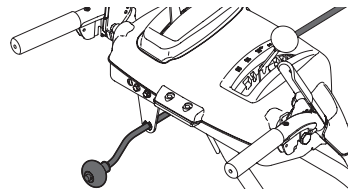

Figure 10
4. Insert chute control rod into the support bracket on rear of the dash panel (Figure 10).